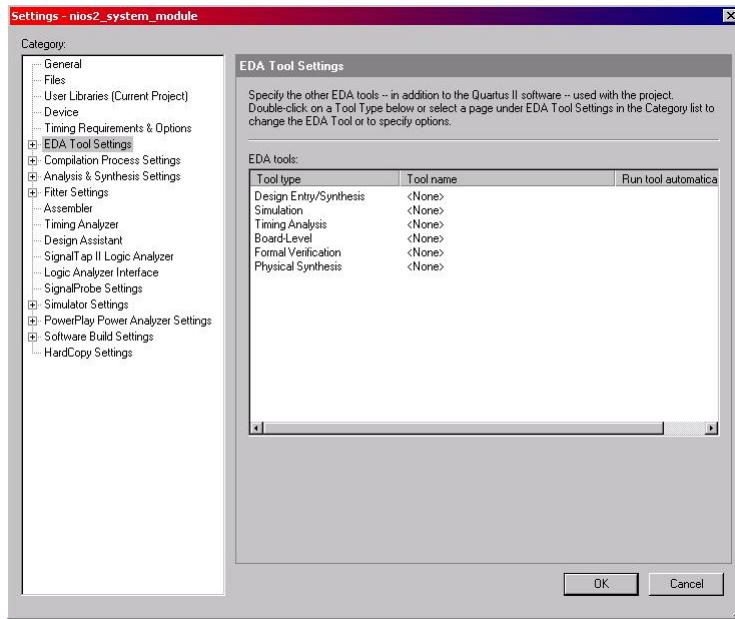

Figure A.7: EDA Tool Settings
2. Ensure that all of the tool settings are set to **<None>**. See Figure A.7.